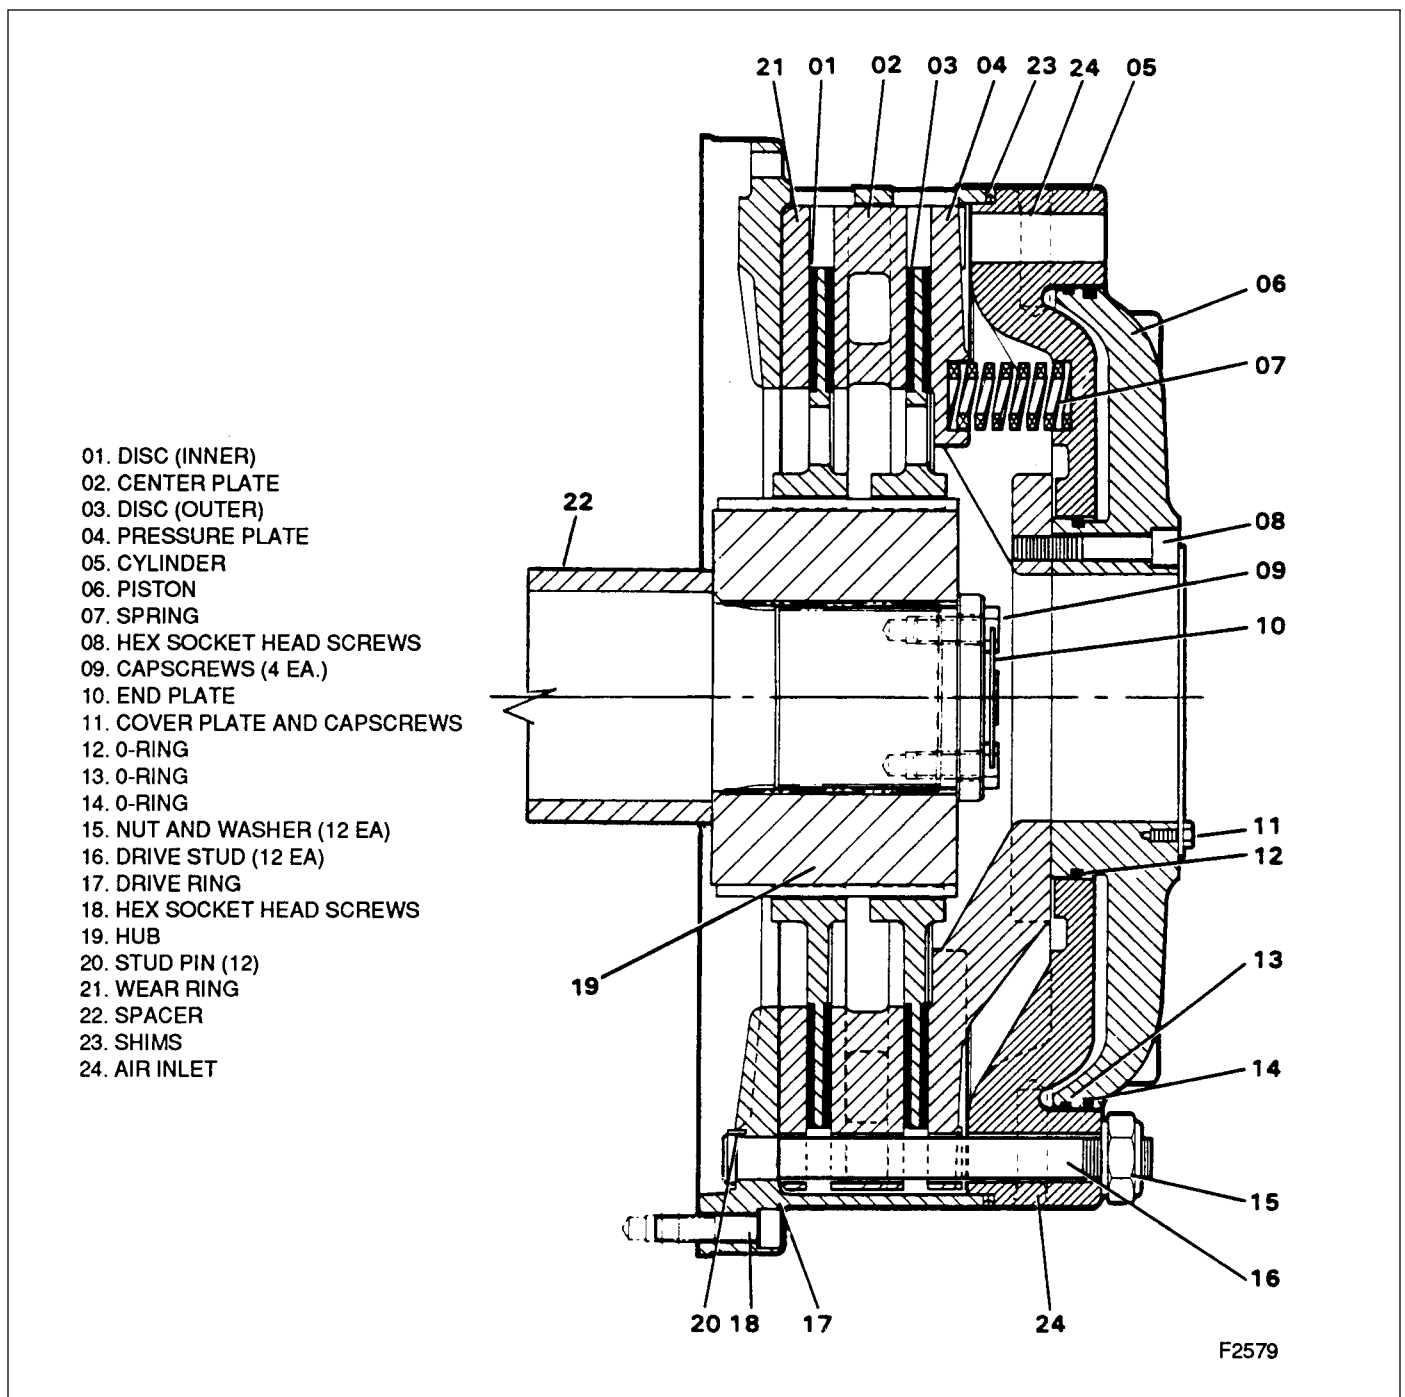

Figure 7-9. Propel Disc Brake Assembly (15R9D4)
CYLINDER O-RING REPLACEMENT. To replace the O-rings, refer to Figure 7-9 and proceed as follows:
DISC INSPECTION AND REPLACEMENT. To inspect or replace the brake disc, refer to Figure 7-9 and proceed as follows:
7. Refer to Figure 7-9 and remove the twelve socket head mounting screws (18).
8. Carefully remove the brake assembly from splined hub (19).
10. If necessary, remove lockwire, capscrews (09), retainer plate (10) and hub (19) from the motor shaft.
1. Refer to Figure 7-9 and remove as an assembly the cylinder and piston assembly, made up of brake piston (06), cylinder (05), shims (23) and pressure plate (04) from brake drive ring (17) as follows:
- A. Remove capscrews and cover plate (11) from piston (06).
- B. Remove the twelve nuts and washers (15) from drive studs (16).
- C. Lift the cylinder and piston assembly from drive ring (17).
ASSEMBLY AND INSTALLATION. To assemble and install the brake assembly, refer to Figure 7-9 and proceed as follows: